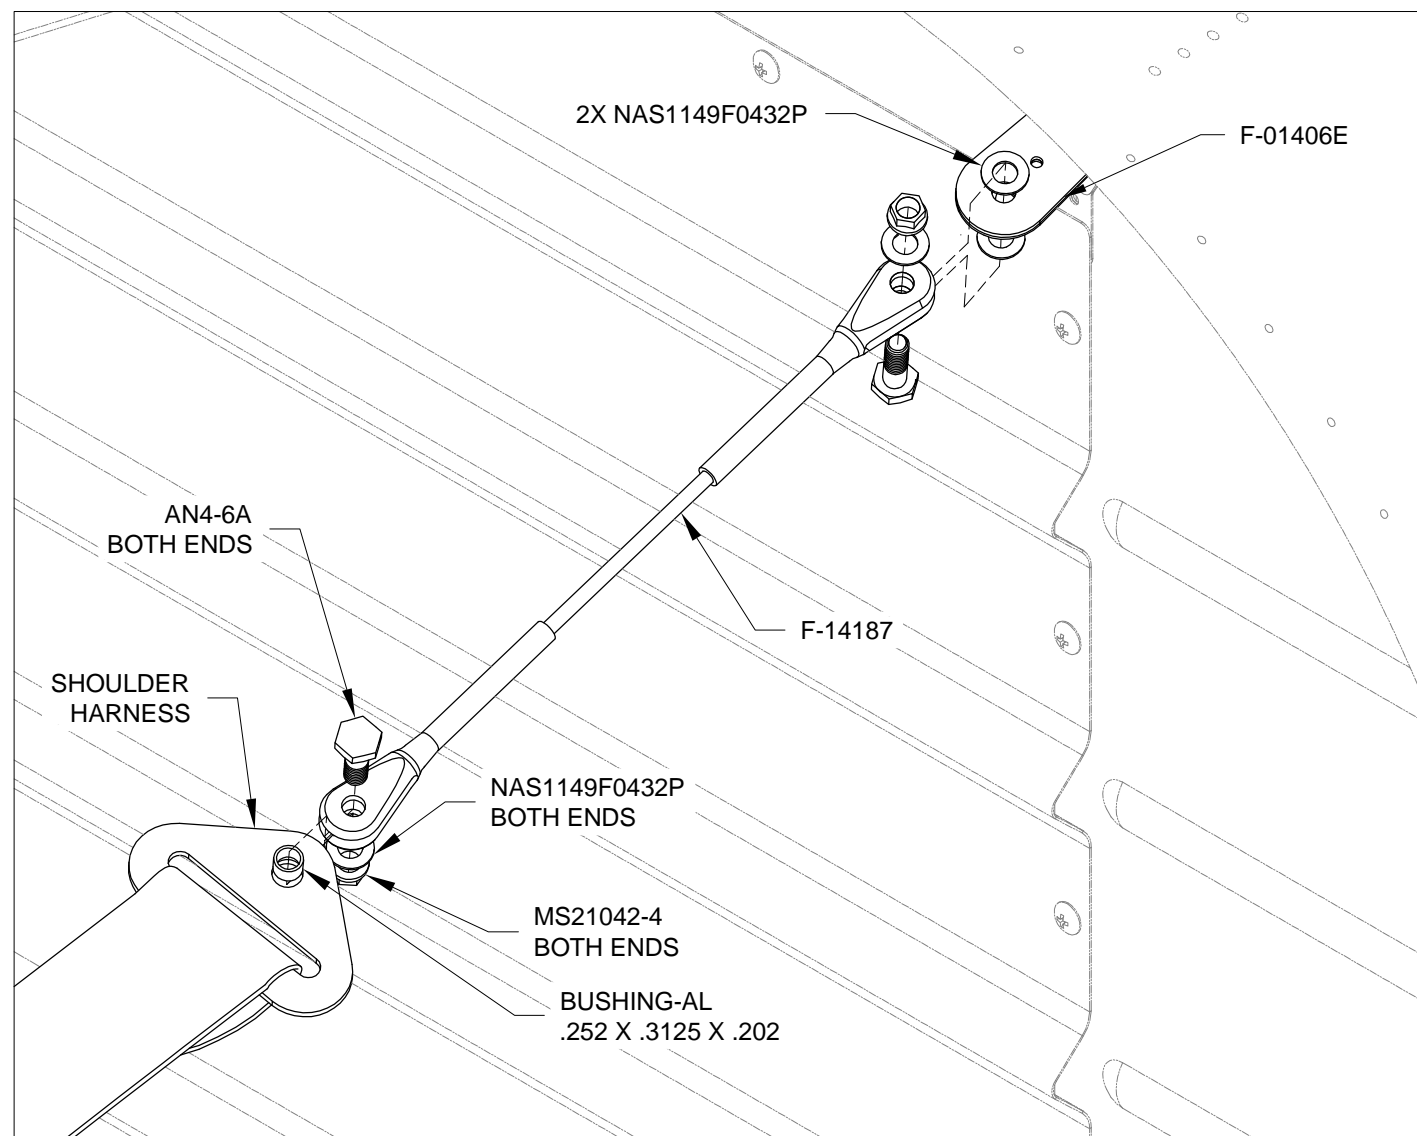

**FIGURE 3: STEP COVER INSTALLATION**
Step 2 (Tail Dragger): Install the F-01447A-1 Step Access Covers with the hardware called out in Figure 3 for the tail dragger installation.